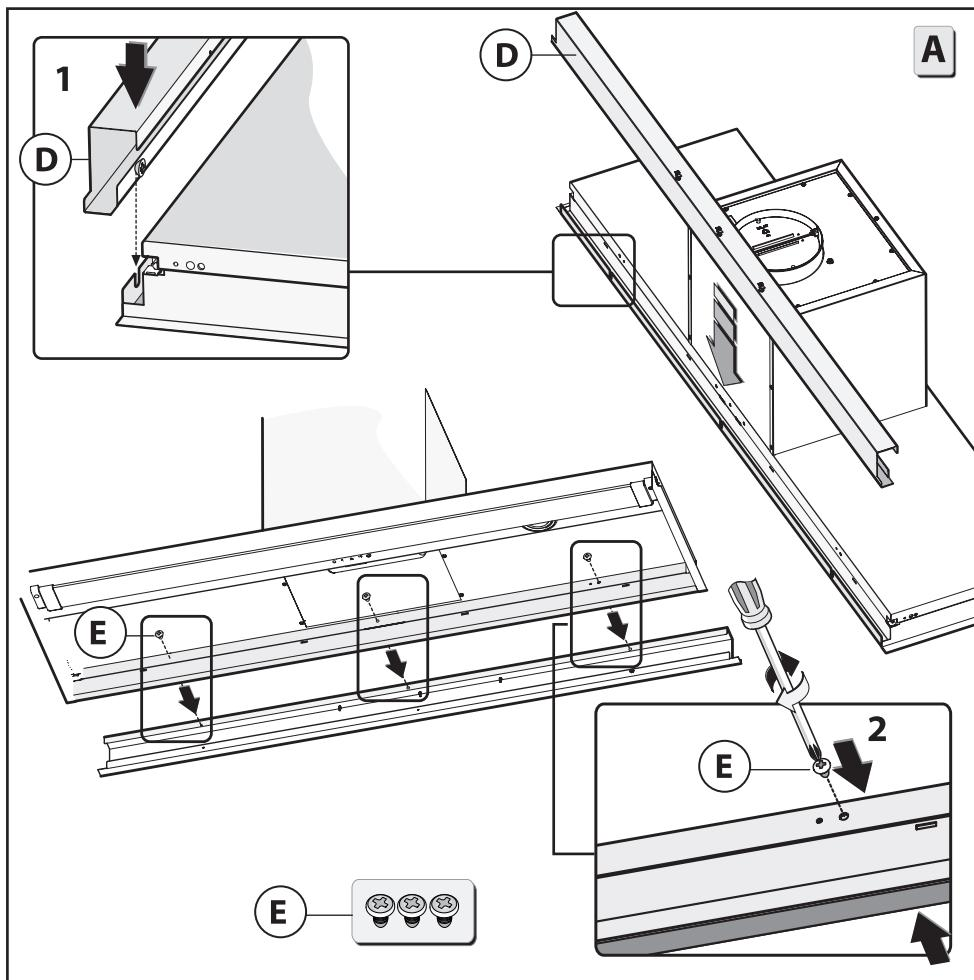

Fig.7
• **Installation of the spacer Fig.7:**
Fit the spacer **D** on the rear slot of the hood as shown in figure 7 - phase 1 and fasten it with the 3 screws **E** figure 7 -phase 2.